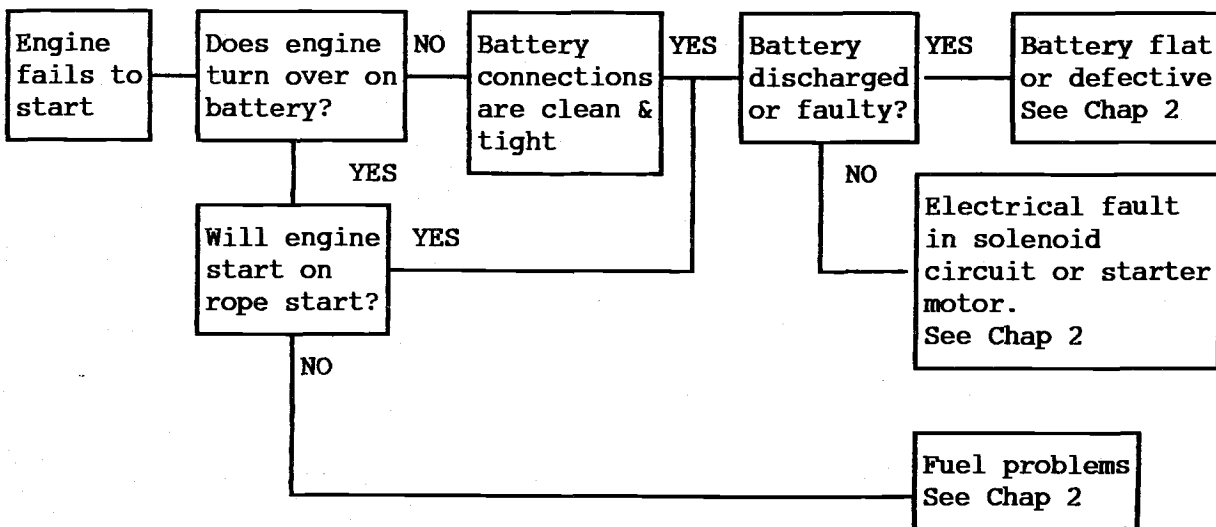

Fig 1 Startup Failure Analysis Flowchart
5. When in the field, the first signs of problems that an operator may experience with the generator set is that it fails to start. Figure 1 flowchart will assist a technician in solving a startup problem.